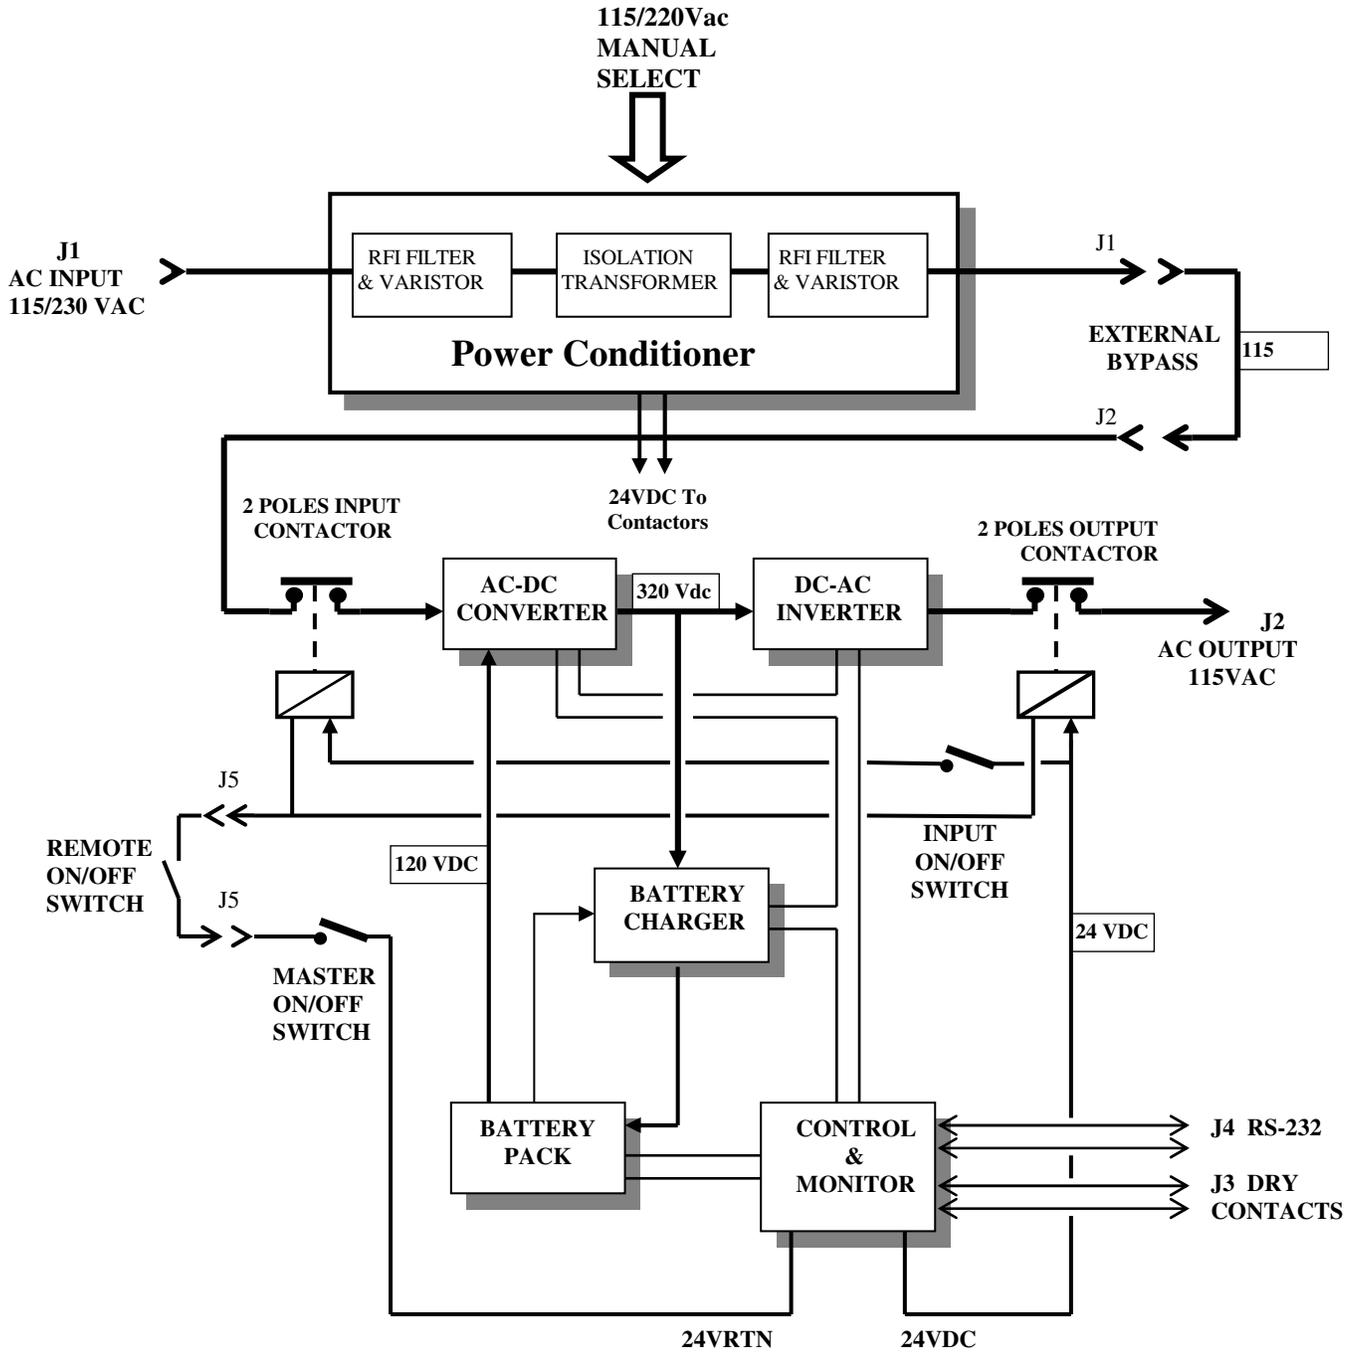
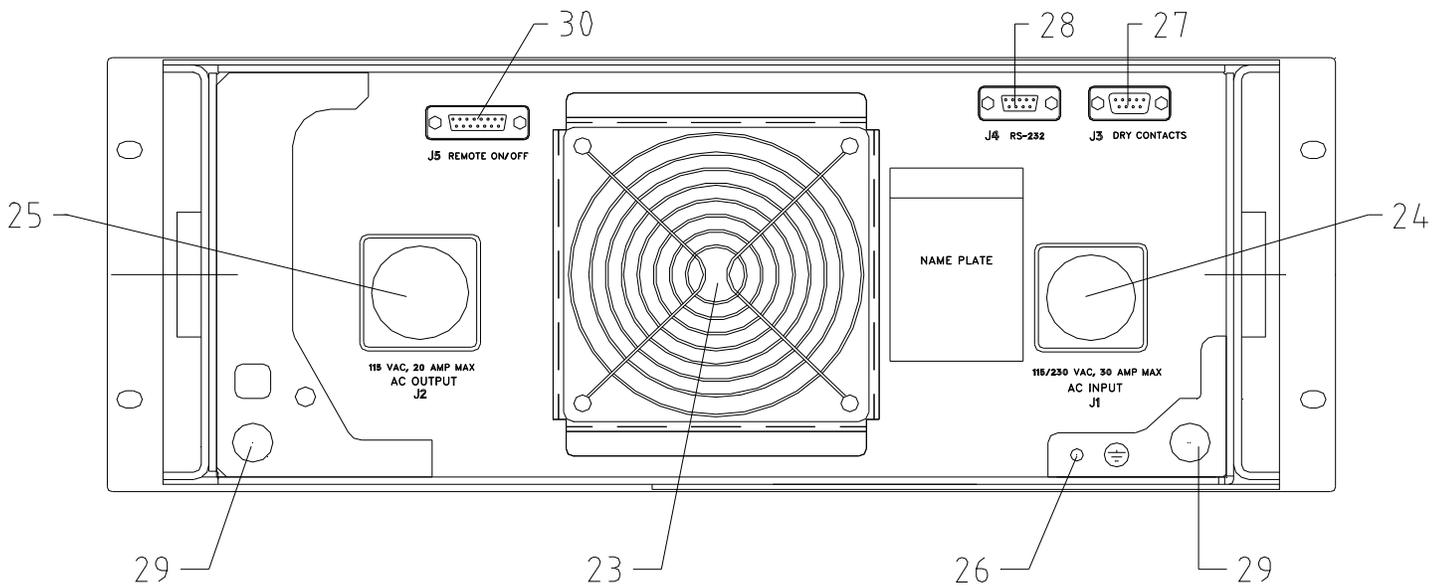

Figure 1: M140BA-1 Block Diagram
Figure 6 - Rear Panel
The M140BA-1 consists of two main sections: Power Conditioner and UPS Section (see Fig. 1). The Power Conditioner is an isolation transformer with RFI filters and spike absorbers. Both the input and output of the Power Conditioner are available to the user via the external connectors of the unit. This configuration allows the user to externally bypass the UPS section of the M140BA-1 without losing the galvanic isolation, the surge protection and the noise filtering provided by the Power Conditioner. In standard shipboard electrical systems, both AC lines are HOT and none may be grounded. In contrast, most standard commercial equipment is designed to operate safely only from a grounded AC source. The Power Conditioner (in both UPS Mode and By-pass Mode) allows the safe connection of commercial equipment, without creating a safety hazard.
Two circular connectors (J1 and J2) are provided on the rear panel of the UPS (see Figure 6). J1 is the input connector to the Power Conditioner section of the unit. J2 carries the output of the Power Conditioner and both input and output of the UPS section. (Please refer to Fig. 1 for the definitions of the Power Conditioner and the UPS sections.)
5. Rear Panel Description (See Figure 6)